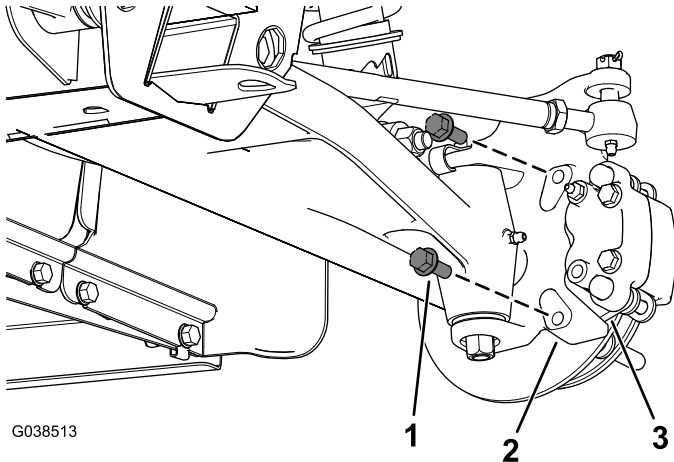

Figure 4
- Remove the flange-head bolts (3/8 x 1 inch) that secure the bracket for the brake-caliper assembly to the spindle and remove the brake-caliper assembly from the spindle (Figure 4).
9. Install the new brake-caliper assembly to the spindle using 2 flange-head bolts (3/8 x 1 inch) as shown in Figure 4.